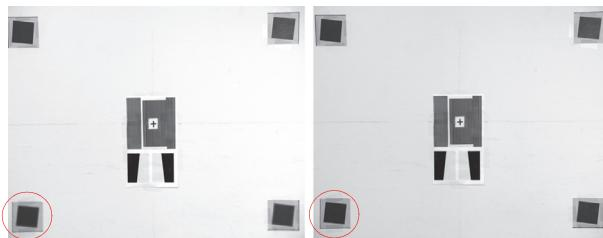

Figure 46: Target image - before (left) and after (right) Z adjustment
- Using an EF-Mount compatible lens, set the lens to infinity and image on a target, 10 to 15 m should suffice. Target should highlight focus levels at center image and at the corners of the image, as shown in figure 46. A lens with a long focal length, or adjustable zoom lens, will allow more precision for this operation and reduce the overall size of your target.